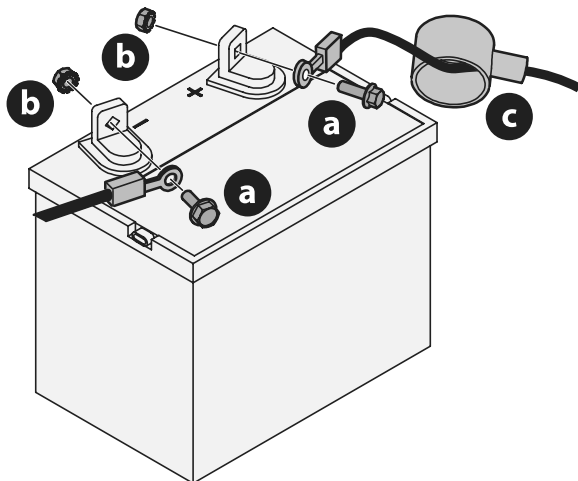

Figure 13
1. If present, remove the plastic cover from the positive battery terminal. Attach the red connector to the positive battery terminal (+) using the bolt (a) and hex nut (b) (Figure 13).
2. Position the red rubber boot (c) over the positive battery terminal to help protect it from corrosion (Figure 13).
3. If present, remove the plastic cover from the negative battery terminal and attach the black cable to the negative battery terminal (-) with the bolt (a) and hex nut (b) (Figure 13).